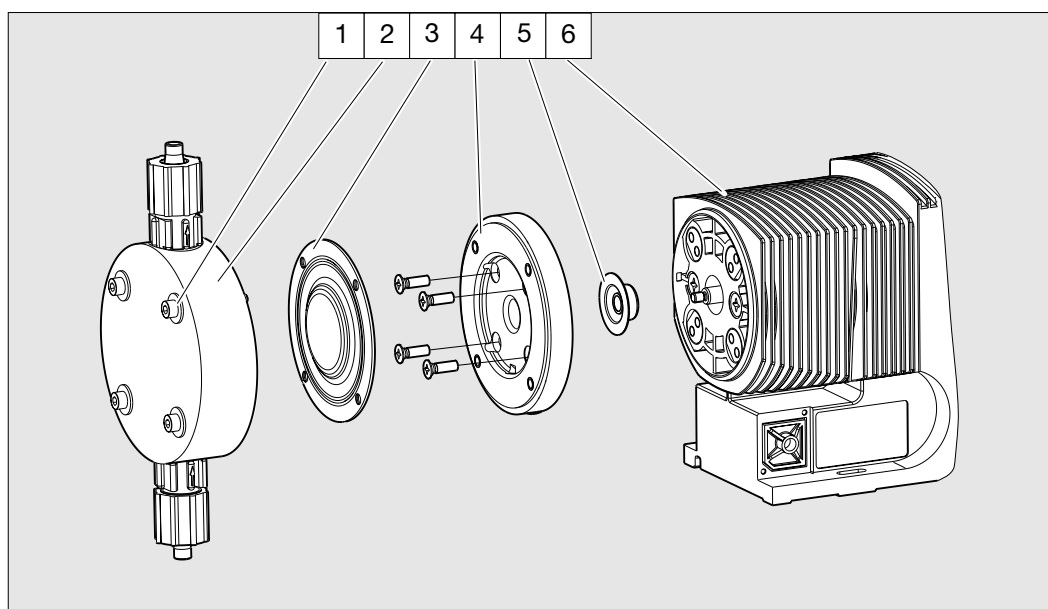

Fig. 22
- ▶ Remove the metering head (2) with the screw (1) from the pump (see fig. 22).